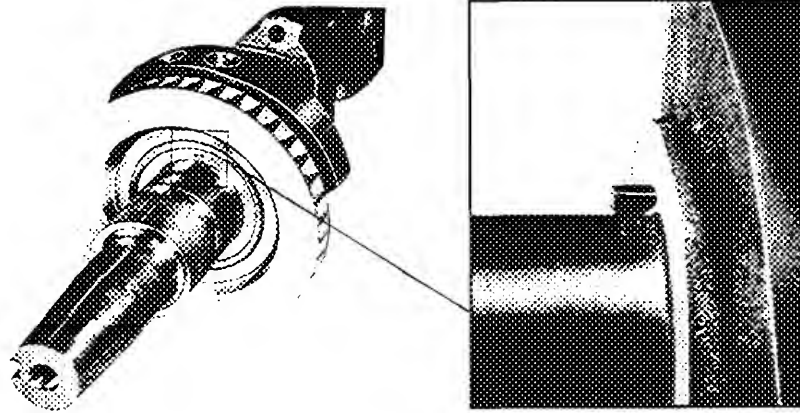

FIG. 38 - CENTRIFUGAL OIL SEPARATOR (5H120 ONLY)
1. Install the headed dowel key so that its axis is parallel to the axis of the shaft. It must be positioned so that the chamfered edge is toward the radius on the crankshaft journal. (See Fig. 38.)
The Centrifugal oil separator is shrink-fitted on the crankshaft. It can be removed by heating to 180 F or more, such as by immersion in oil or hot water. If water is used, insure that all traces are removed before re-assembly. Use of a torch on the impeller is not recommended. (See Fig. 38.)